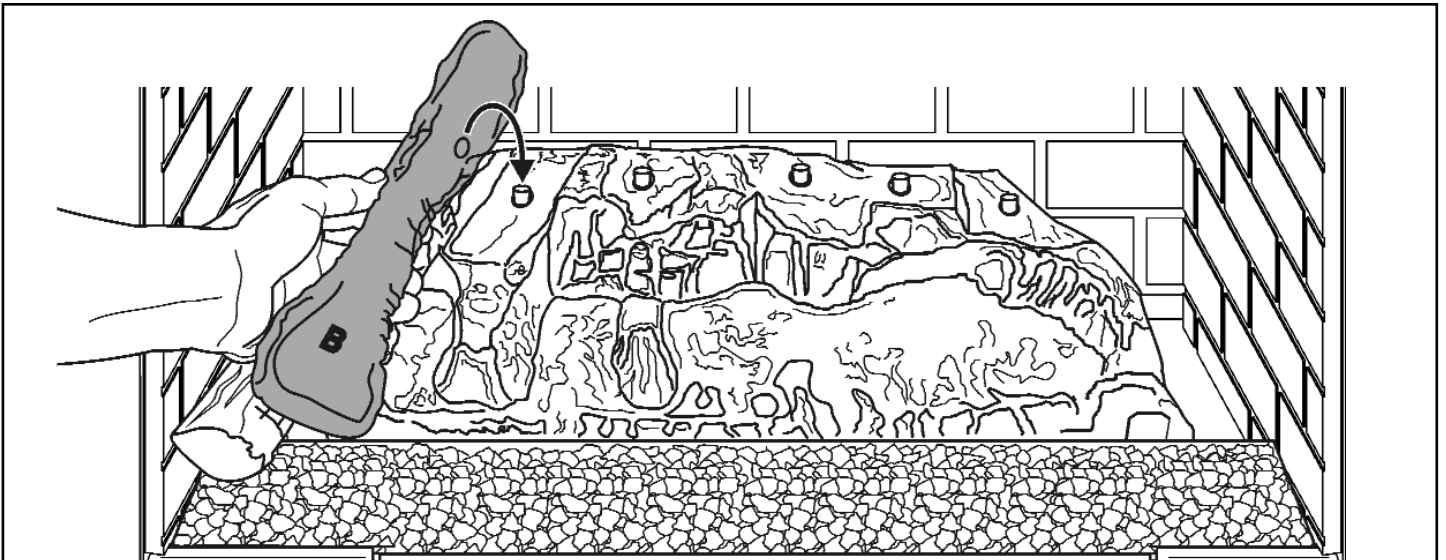

Figure 5. Fitting log 'B'
5. Remove log 'B' from its protective packaging and position it as shown in figure 5. Locate the hole in the base of log 'B' onto the peg on top of the rear base.